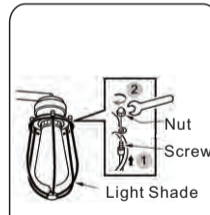

Fig.23
Step 4. Re-assemble the light kit shade and tighten the nut with the provided wrench. (Fig.23)